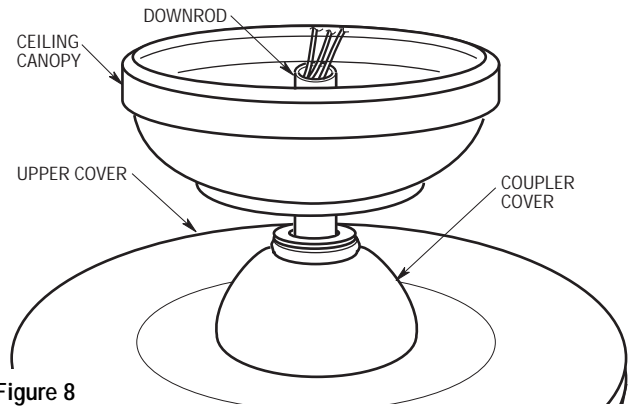

Figure 8
- 9. Make sure the grommet is properly installed in the coupler cover, then slide the coupler cover on the downrod until it rests on the upper cover. Place the ceiling canopy over the downrod. Be sure that the ceiling canopy and the coupler cover are both oriented correctly (Figure 8). Be careful not to scratch the downrod and coupler cover with the ceiling canopy.